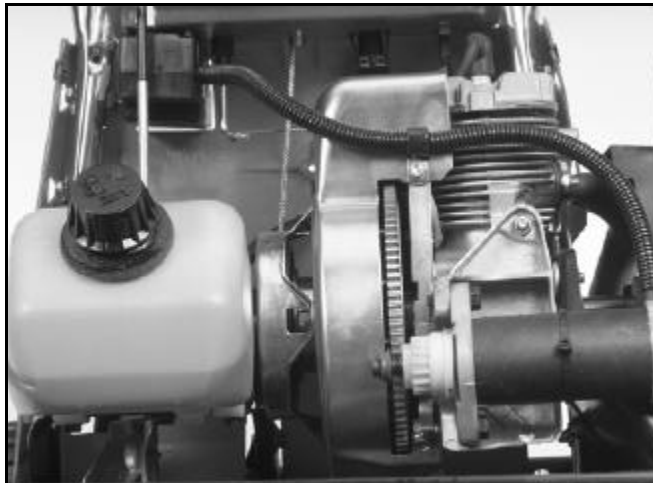

Figure 152
- Remove the two screws securing the starter motor to motor mounting bracket (Figure 152).